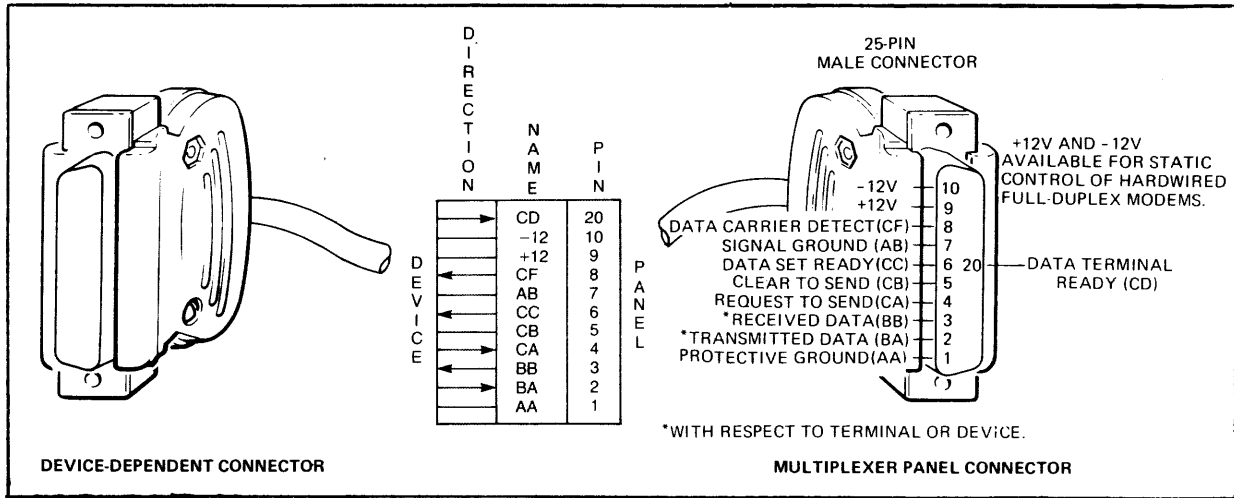

Figure 4-3. RS-232-C Panel to Device Wiring
If you need to make your own cables for connection to the RS-232-C panel, the wiring information in figure 4-3 will be useful. Figure 4-3 illustrates the RS-232-C Panel device connector pin assignments that are representative of each port, J0 through J7. Note that in keeping with EIA RS-232-C standards when referring to the terminal or I/O device, Received Data (BB) and Transmitted Data (BA) should be referenced with respect to the terminal or device. In other words the Transmitted Data (BA) at the device end is actually the Receive Data (RD-) at the MUX interface. By the same convention, Received Data (BB) at the device is actually Send Data (SD-) at the MUX interface. A standard 25-pin male connector (shown in Figure 4-3) must be attached to the RS-232-C Panel end of the cable and your device compatible connector at the other. It is recommended that such a cable not exceed 15 meters (50 ft) in length by the RS-232-C standard. Figure 4-3 gives the pin-to-signal relationships for the 25-pin connector at the RS-232-C Panel end of the fabricated cable.